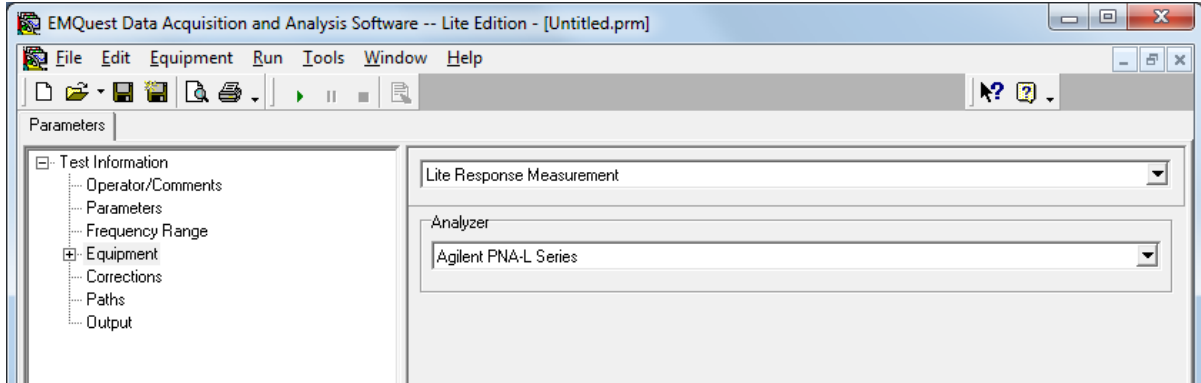

Figure 5. Equipment pane: network analyzer (STEP 7).
7. Click on “**Equipment**” and select the “Agilent PNA-L Series” network analyzer, as shown in Figure 5.